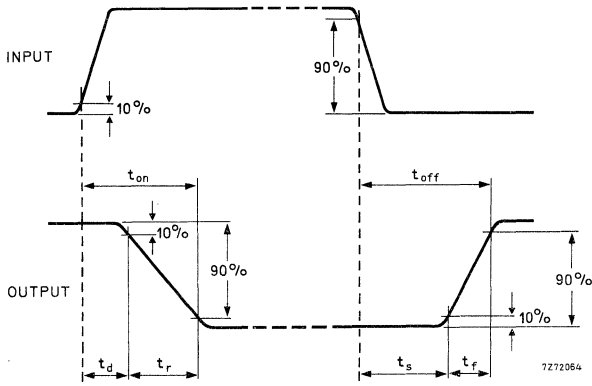

Fig. 2 Test circuit and switching waveforms.
** The BF819 is controlled to V_{CEsat} max. 11,0 V and is thermally stable under all operating conditions where $T_{j\ max}$ of 150 $^\circ\text{C}$ is not exceeded. For the typical circuit shown in Fig. 2, a heatsink is not required for operation with $T_{amb} \leq 75\text{ }^\circ\text{C}$.